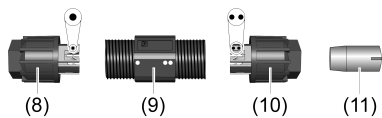

Figure 6: Connection set 50909900
To seal the output cable, use a sealing plug (11) and union nut (10) with two-point marking from the connection set (Figure 6).
To connect the supply line, use an insulator (9) and union nut (8) with one-point marking from the connection set (Figure 6).